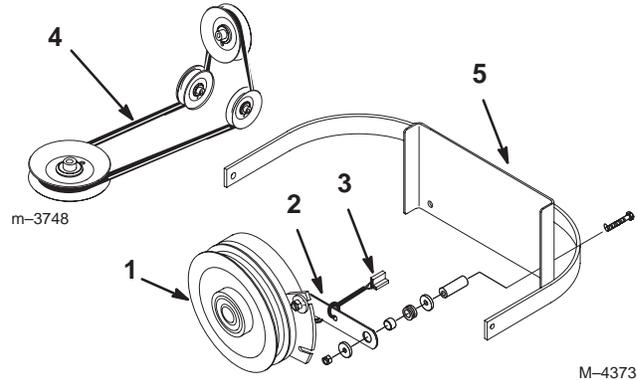

Figure 54
2. Remove the clutch retaining strap from machine frame and unplug clutch terminal from wire harness (Fig. 54).
7. Install clutch retaining strap and plug clutch terminal into main wire harness (Fig. 54).